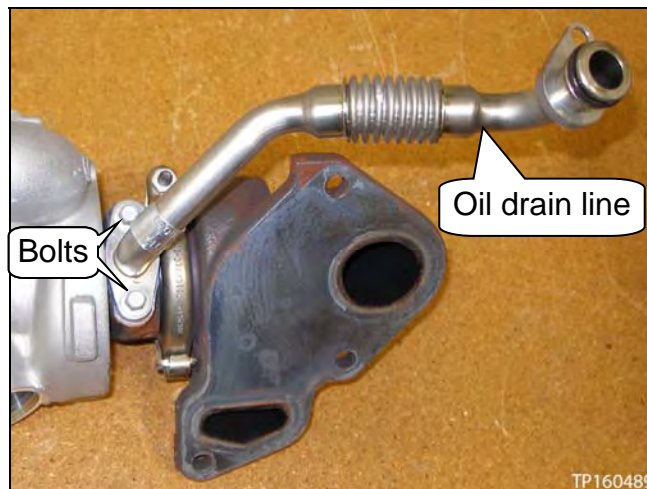

Figure 54
43. Remove the bolts, and then remove the oil drain line (see Figure 54).